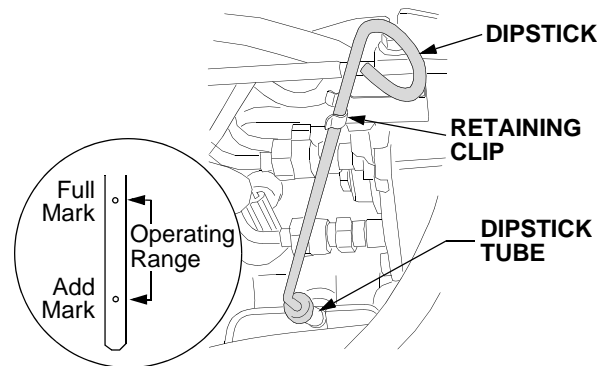
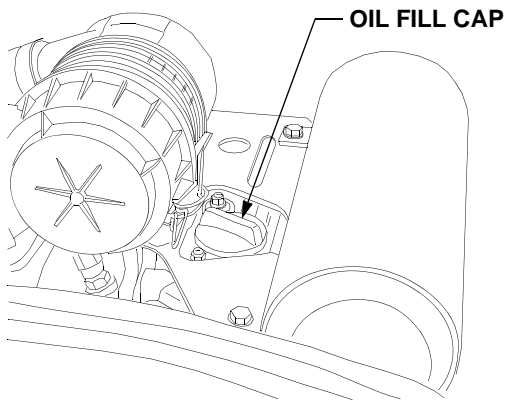

Figure 49
Figure 50
- Check the oil level only while the engine is stopped and the tractor is level. Clean the area around the oil level dipstick to prevent debris from entering the crankcase. See Figure 49.
- Always keep the oil level between the full and the add marks on the dipstick. See Figure 49.
- Clean the area around the oil filler cap to prevent debris from entering the crankcase. See Figure 50.
- SLOWLY pour oil into the crankcase until the oil level reaches the "FULL" mark on the dipstick. Refer to Figure 49.
- Remove the dipstick and oil fill cap from the engine. Refer to Figure 49 and Figure 50.